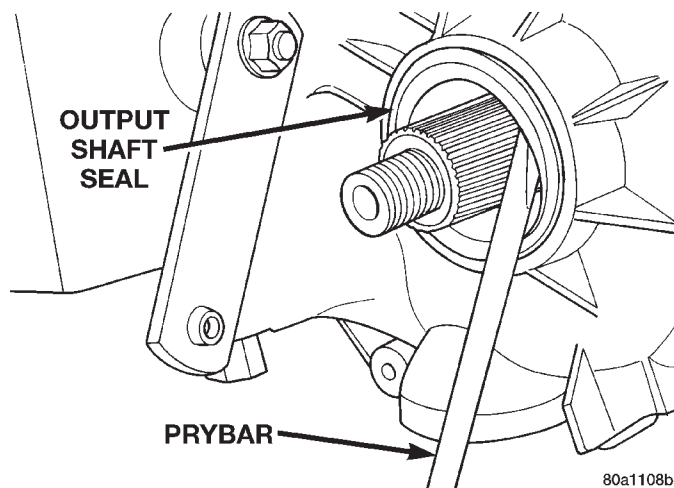

Fig. 40 Front Output Seal Removal
- (1) Remove the front output shaft seal from case with pry tool (Fig. 40).